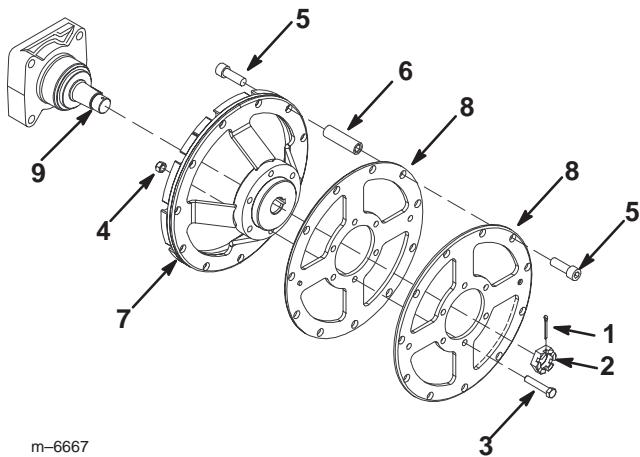

Figure 4
1. Remove the cotter pin and wheel nut. Remove the rear wheel assembly from the motor shaft. (Fig. 4)
2. Disassemble the rear wheel by removing the 22 hex socket screws and spacers securing the outer ring of the wheel assembly, and then remove the six bolts and nuts on the inner ring of the wheel assembly (Fig. 4).